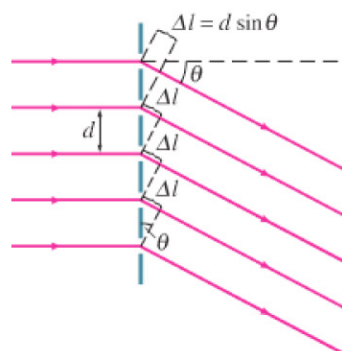

FIGURE 24–24 Diffraction grating.
The analysis of a diffraction grating is much like that of Young’s double-slit experiment. We assume parallel rays of light are incident on the grating as shown in Fig. 24–24. We also assume that the slits are narrow enough so that diffraction by each of them spreads light over a very wide angle on a distant screen beyond the grating, and interference can occur with light from all the other slits. Light rays that pass through each slit without deviation ( $\theta = 0^\circ$ ) interfere constructively to produce a bright line at the center of the screen. Constructive interference also occurs at an angle  $\theta$  such that rays from adjacent slits travel an extra distance of  $\Delta l = m\lambda$ , where  $m$  is an integer. If  $d$  is the distance between slits, then we see from Fig. 24–24 that  $\Delta l = d \sin \theta$ , and
There is an important difference between a double-slit and a multiple-slit pattern. The bright maxima are much *sharper* and *narrower* for a grating. Why? Suppose that the angle  $\theta$  is increased just slightly beyond that required for a maximum. In the case of only two slits, the two waves will be only slightly out of phase, so nearly full constructive interference occurs. This means the maxima are wide (see Fig. 24–10). For a grating, the waves from two adjacent slits will also not be significantly out of phase. But waves from one slit and those from a second one a few hundred slits away may be exactly out of phase; all or nearly all the light can cancel in pairs in this way. For example, suppose the angle  $\theta$  is very slightly different from its first-order maximum, so that the extra path length for a pair of adjacent slits is not exactly  $\lambda$  but rather  $1.0010\lambda$ . The wave through one slit and another one 500 slits below will have a path difference of  $1\lambda + (500)(0.001\lambda) = 1.5000\lambda$ , or  $1\frac{1}{2}$  wavelengths, so the two will cancel. A pair of slits, one below each of these, will also cancel. That is, the light from slit 1 cancels with that from slit 501; light from slit 2 cancels with that from slit 502, and so on. Thus even for a tiny angle† corresponding to an extra path length of  $\frac{1}{1000}\lambda$ , there is much destructive interference, and so the maxima are very narrow. The more lines there are in a grating, the sharper will be the peaks (see Fig. 24–25). Because a grating produces much sharper (and brighter) lines than two slits alone can, it is a far more precise device for measuring wavelengths.
Suppose the light striking a diffraction grating is not monochromatic, but consists of two or more distinct wavelengths. Then for all orders other than  $m = 0$ , each wavelength will produce a maximum at a different angle (Fig. 24–26a), just as for a double slit. If white light strikes a grating, the central ( $m = 0$ ) maximum will be a sharp white peak. But for all other orders, there
† Depending on the total number of slits, there may or may not be complete cancellation for such an angle, so there will be very tiny peaks between the main maxima (see Fig. 24–25b), but they are usually much too small to be seen.
FIGURE 24–25 Intensity as a function of viewing angle  $\theta$  (or position on the screen) for (a) two slits, (b) six slits. For a diffraction grating, the number of slits is very large ( $\approx 10^4$ ) and the peaks are narrower still.